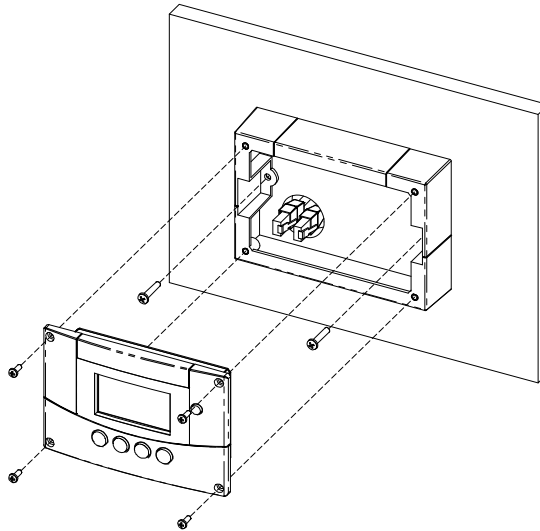

Figure 2-8 Surface Mounting the Xantrex XW SCP
6. Place the unit into the mounting bracket and secure it with four #6 screws. See Figure 2-8.